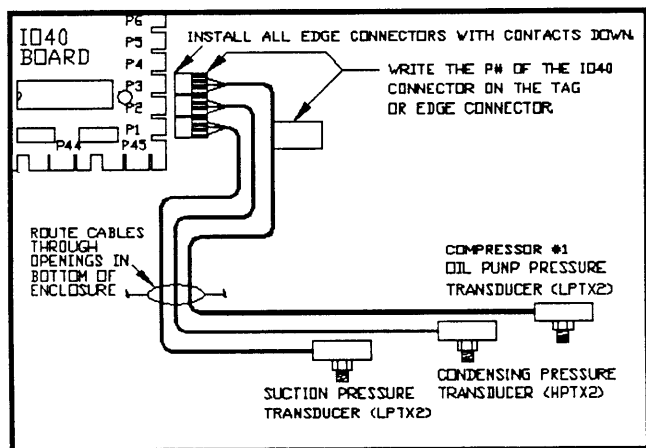

Figure C-3: Pressure Transducer Wiring
The HPTX2 and LPTX2 pressure transducers should be connected to the IO40 Board as shown in **Figure C-3**. The 8 foot cable length for each transducer should be adequate to connect the transducer plugs directly to the IO40 Board without splicing.
- To reduce the chance of mixing cables or plugging cables onto the wrong connector, Altech recommends that the IO40's connector number be written on the edge connector or tag as shown in **Figure C-3** (example: "P1", "P2", etc.).